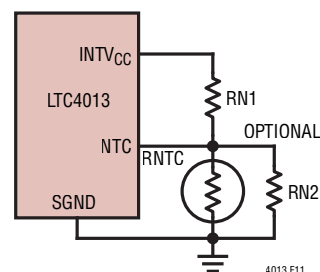

Figure 11. NTC Configuration for Temperature Compensation
As mentioned the LTC4013 uses a charge voltage method that can be used to shift the charge voltage as a function of temperature. In the simplest view the voltage ($V_{NTC} - V_{INTVCC}/2$) is multiplied by 0.21 and added to the charge voltage. Figure 11 shows how to configure the pin and Table 10 shows some common temperature coefficient (TC) and associated resistor settings using 10k, B = 3380 NTC resistor. Note TC is with respect to the charge voltage at FB which is roughly 1 cell of a lead acid battery.